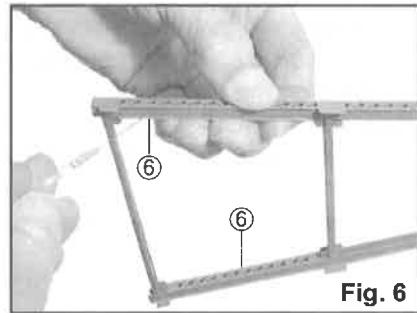

Fig. 6
To assemble, pick up the bent assembly and hold part (6) against the bent edges, with its ribs outside each bent half. Apply cement along one edge at a time. See Fig. 6.
Assemble as in step 4. See Fig. 6.
**12. Cement a second tower strut lattice part (19) to the top of the tower strut assembly.**
To assemble, remove the straight pins, pick up the tower strut assembly, and hold part (19) against the assembly (similar to fig. 6) with its rivet detail and its ribs to the outside. Apply cement along the ribs while applying pressure.